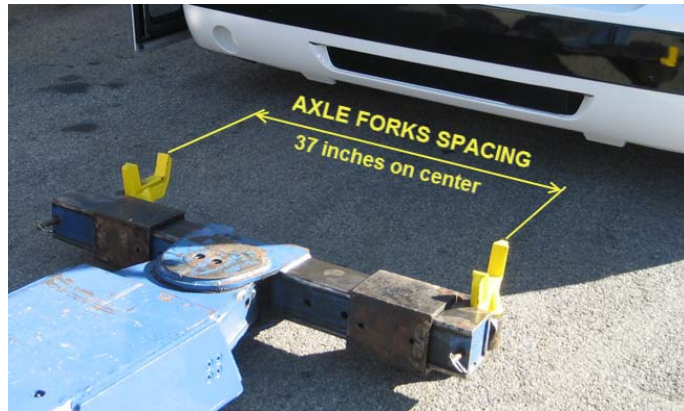

FIG.32
2. Place the axle forks on the tow bar fork holders (fig.32).
4. Adjust fork holders position and hand guide the forks into each front tow eye (fig.32).